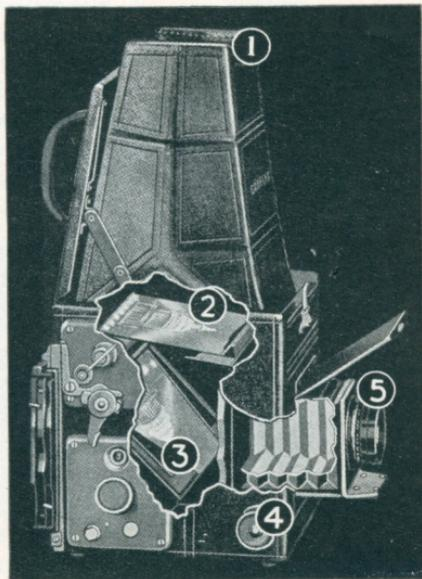

Figure 1
1. **Reflex focusing** is illustrated in Figure 1. Light enters the camera through the **lens 5** and is reflected upward by the **mirror 3** to the **ground-glass screen 2**; visibility of the image is improved by the light-excluding **focusing-hood 1**. The lens is focused by **focusing control 4**. Since the **focusing screen** and the film are equidistant from the lens, sharpness of the image